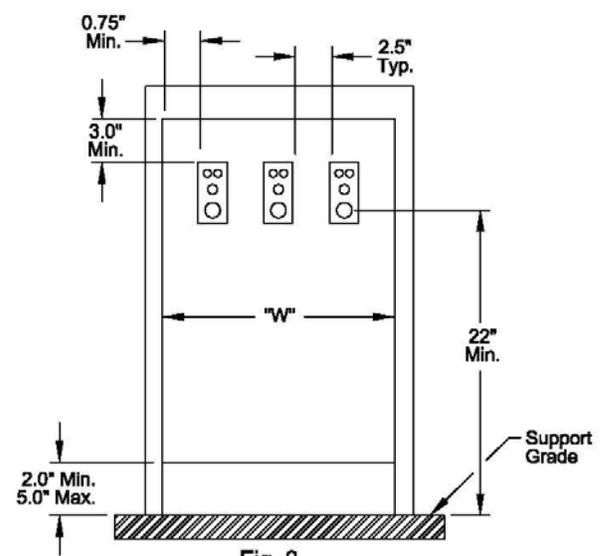

Fig. 3
- d. Provide with a demand reset cover with a viewing window (See Fig. 3). The reset cover shall be sealable and lockable with a padlock having 5/16 inch lock-shaft.